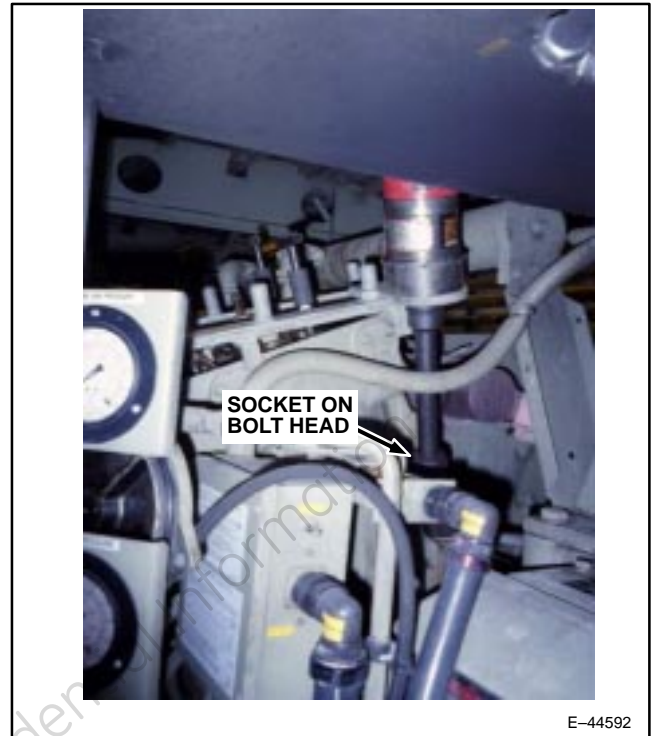

Figure 5. Positioning Air Motor, Extension And Socket On Bolt Head.
- e. Assemble the air motor, extension and socket. Avoiding pinch points, carefully lift and place the air motor on the support rack pins and on bolt head (Figure 5). **Verify clamping plates are still properly aligned and re-tighten both knurled clamping rods.**